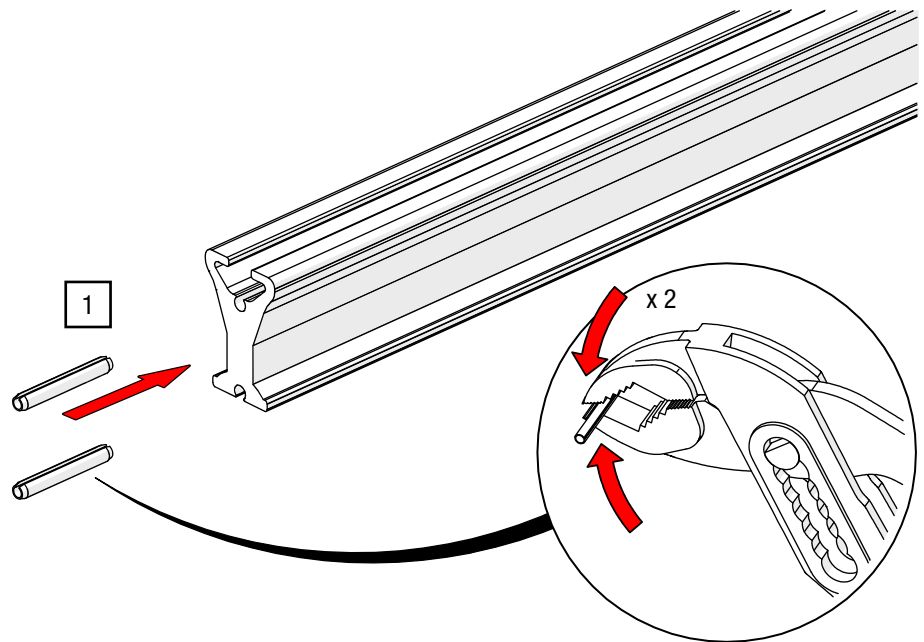

Fig. 25: Track splice – insert connecting pin into track section
1. Press the connecting pins together slightly conically on both sides with a pipe wrench and insert them into the centring holes provided (see Fig. 25).